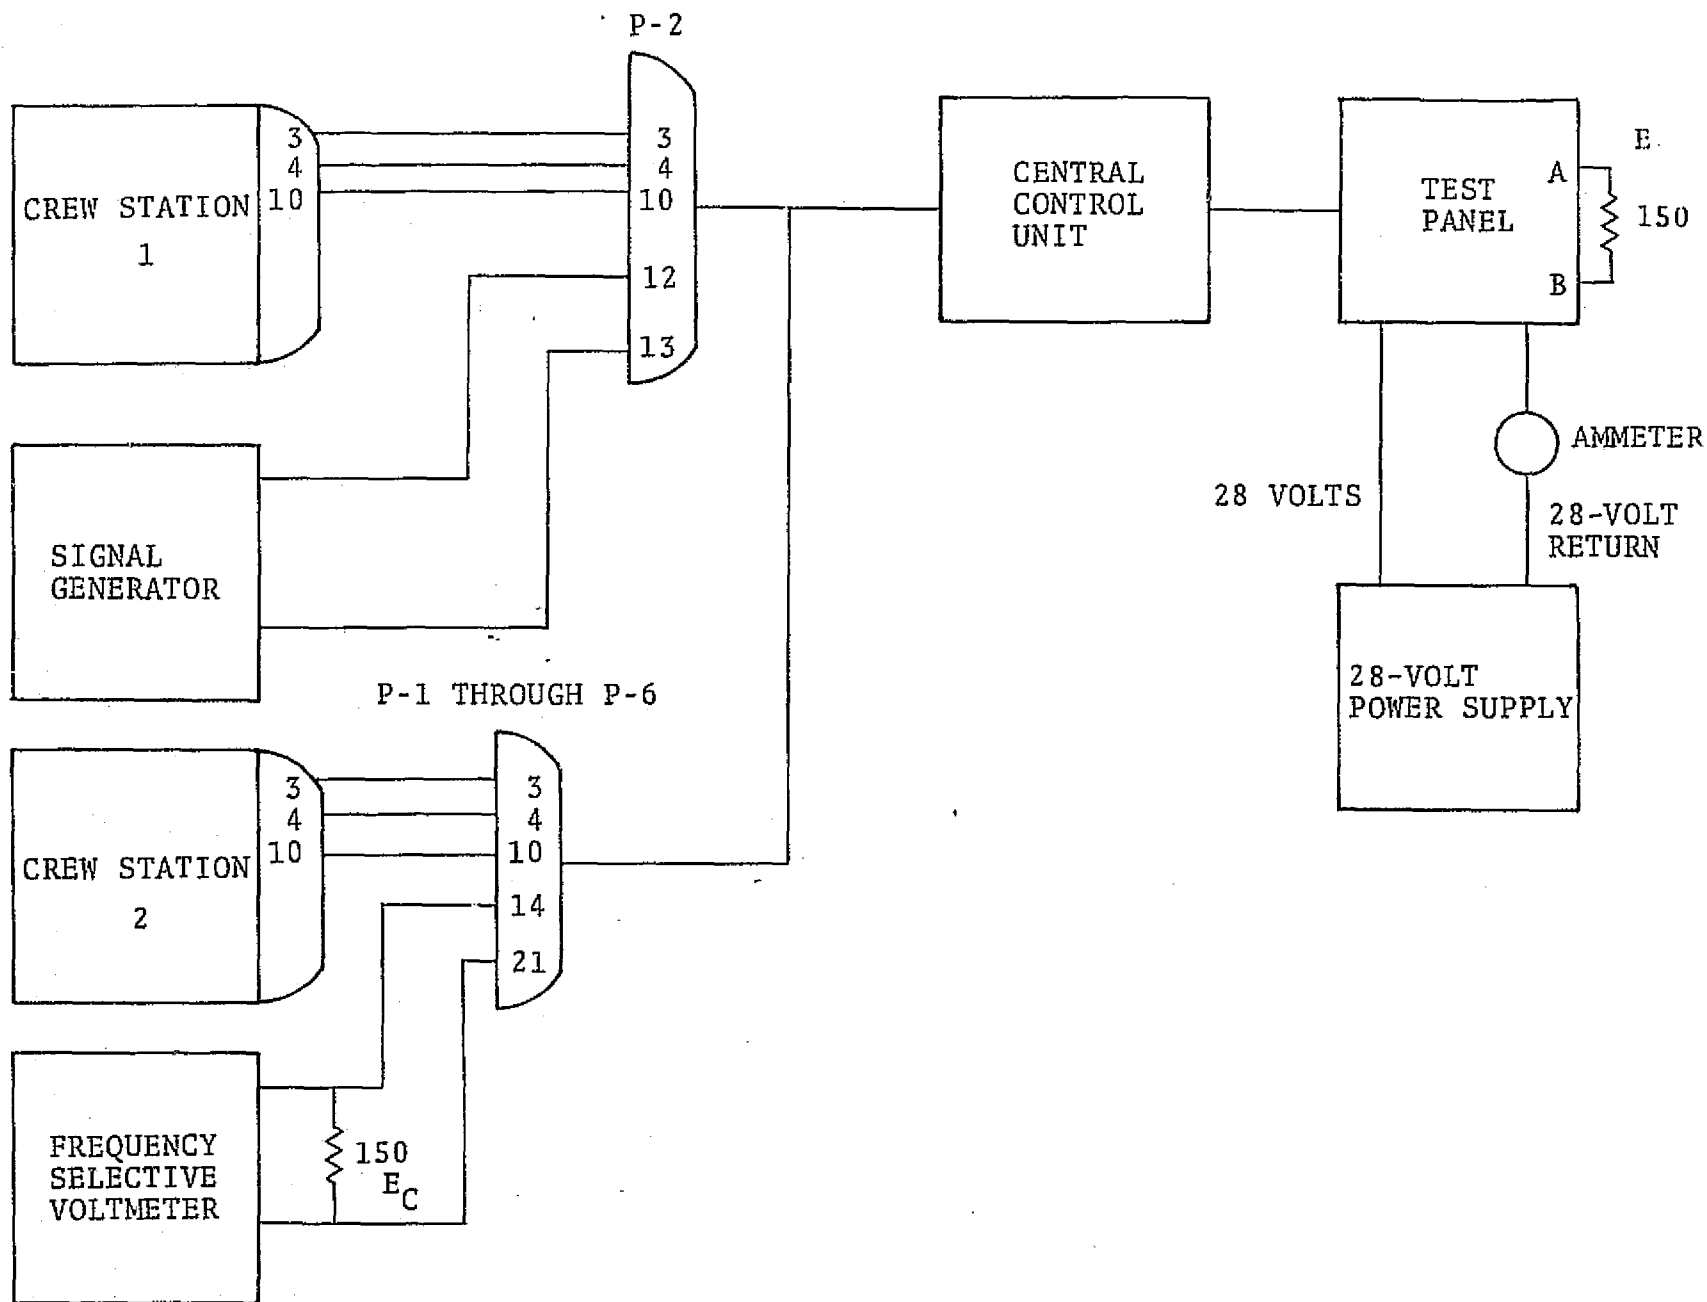

Figure 5-10. — Transmit-to-receive crosstalk test setup.
1. Connect the equipment as shown in figure 5-10, starting with plug P-1.